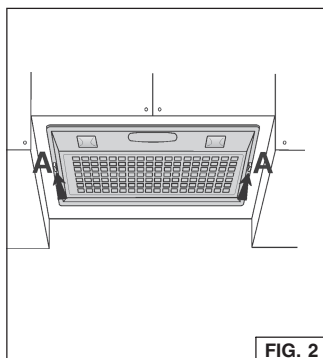

FIG. 2
1. Remove the grid by moving the 2 slide fasteners "A" forward (Fig.2).
To remove the grease filter: remove the grid by moving the 2 slide fasteners "A" (Fig. 2); remove the metal wires and then the grease filter (Fig. 9).
1. Remove the grid by moving the 2 side fasteners "A" (Fig. 2).